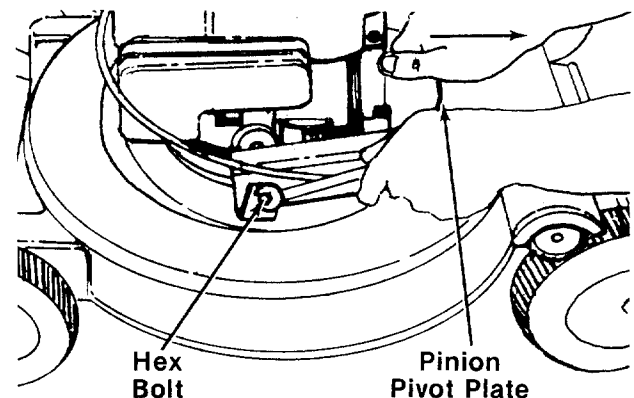

FIGURE 17.
1. Loosen (do not remove) the hex bolt on each side of the pinion pivot plate. See figure 17.